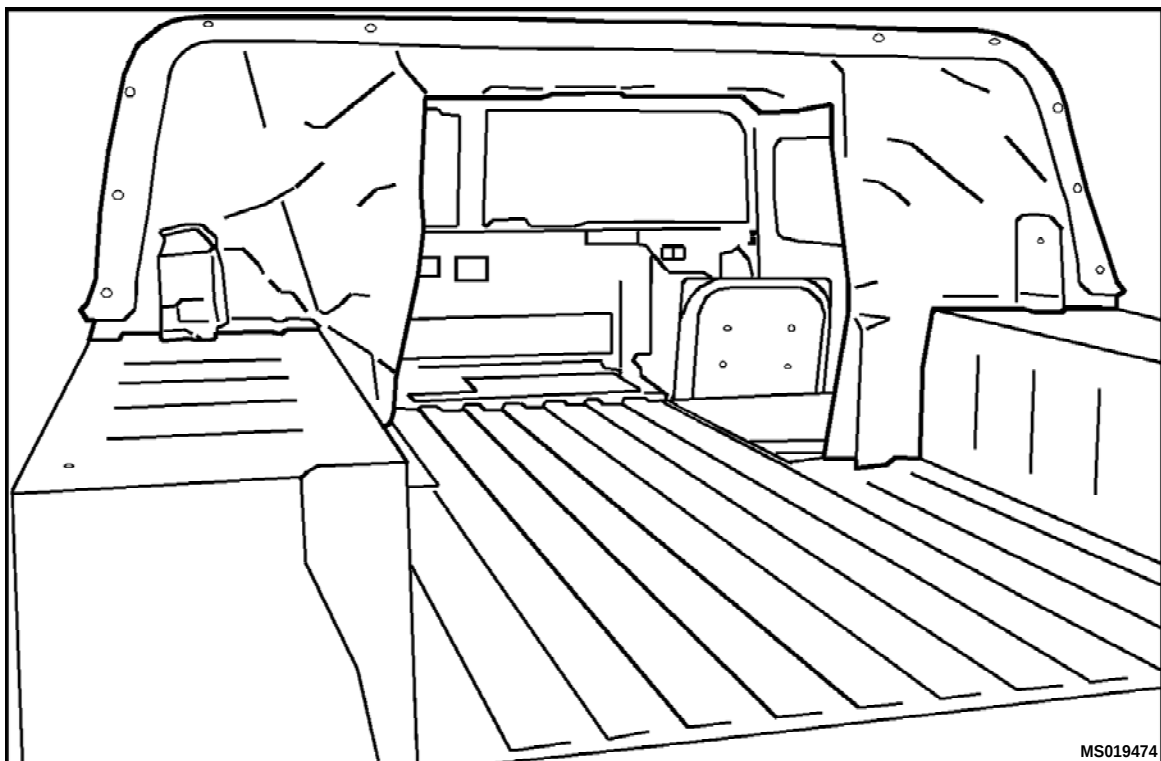

Figure 1. Rear Cab Curtain Installation
2. Install new rear cab curtain loosely. (Figure 1) Do not tighten until main box is installed. Follow instructions contained in TM 9-2320-280-10.